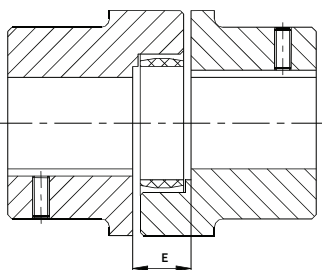

FIG 2: ASSEMBLY OF COUPLING
- Shift the power packs in axial direction until the distance dimension ϵ is achieved (see **FIG 2**).